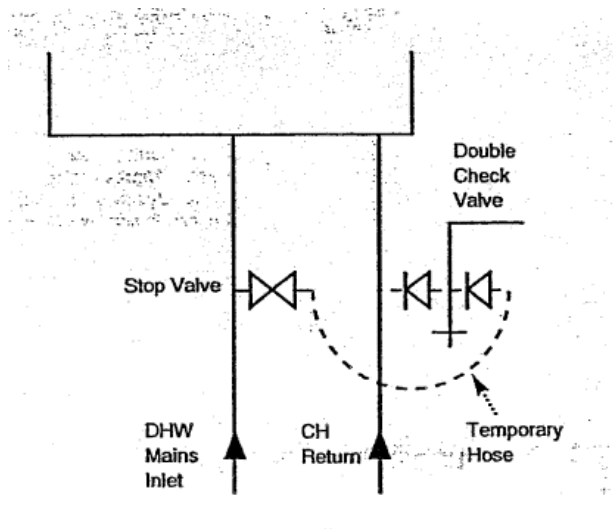

Fig. 3
- 4 The sealed primary circuits may be filled or replenished by means of a temporary connection between the circuit and a supply pipe, provided a 'Listed' double check valve or some other no less effective backflow prevention device is permanently connected at the inlet to the circuit and the temporary connection is removed after use (Fig. 3).